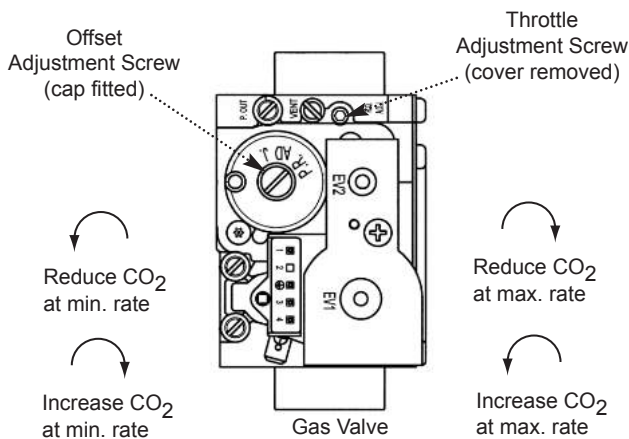

Fig. 55
4. Check the CO₂ is 9.3% ±0.1%. If the CO₂ is incorrect alter the Throttle Adjustment Screw (Fig. 55). Turn the screw anticlockwise to increase the CO₂ or clockwise to decrease (2.5mm hexagon key).
6. Check the CO₂ is 8.9% ±0.1%. If the CO₂ is incorrect alter the Offset Adjustment Screw (Fig. 55). Turn the screw clockwise to increase the CO₂ or anticlockwise to decrease (4mm hexagon key).